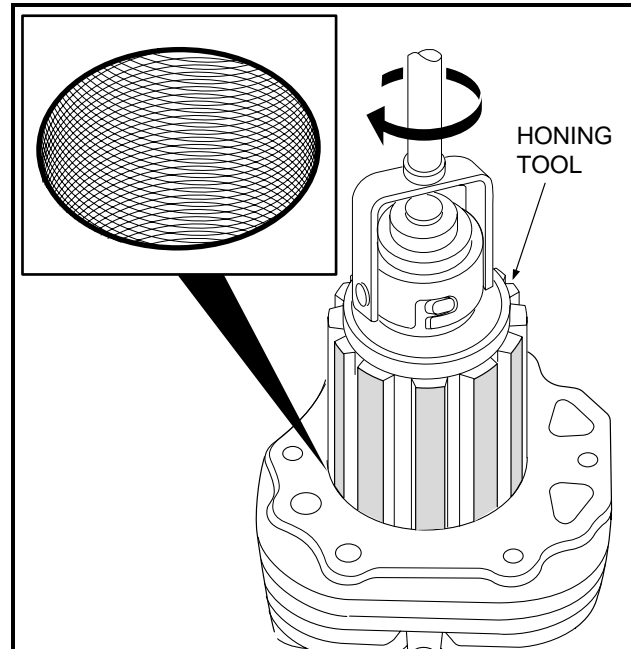

Figure 13-60 Hone Cylinder
- IMPORTANT: THE CYLINDER WALL FINISH SHOULD HAVE A 40° TO 60° CROSS-HATCH PATTERN (**FIGURE 13-60, PAGE 13-30**).